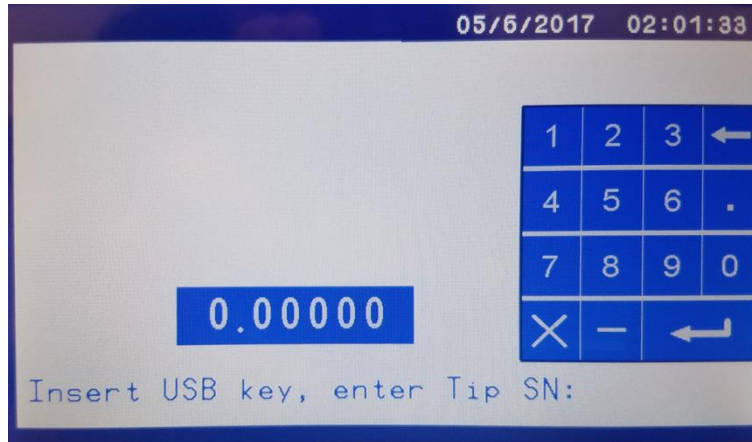

Figure K-10: Enter sensor tip details
4. The serial number screen displays (Figure K-10).